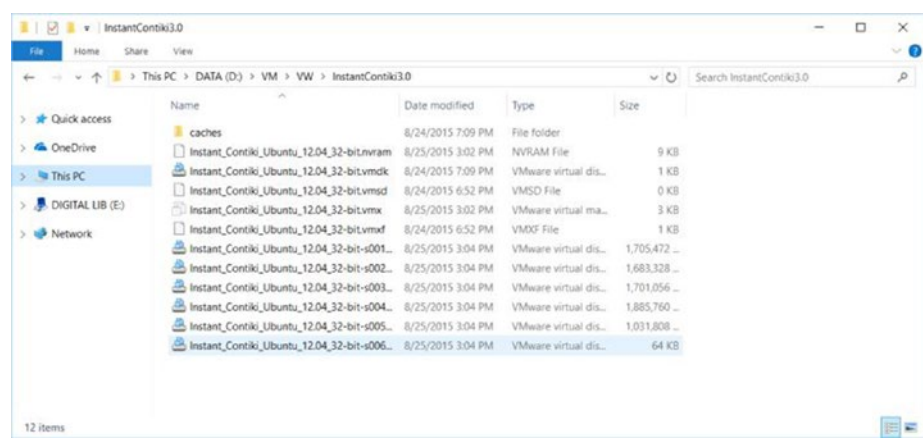

Figure 1-11. *Extracted instant Contiki files*
- After downloading Instant Contiki, you can extract it to a specific folder. You should see some files as shown in Figure 1-11.